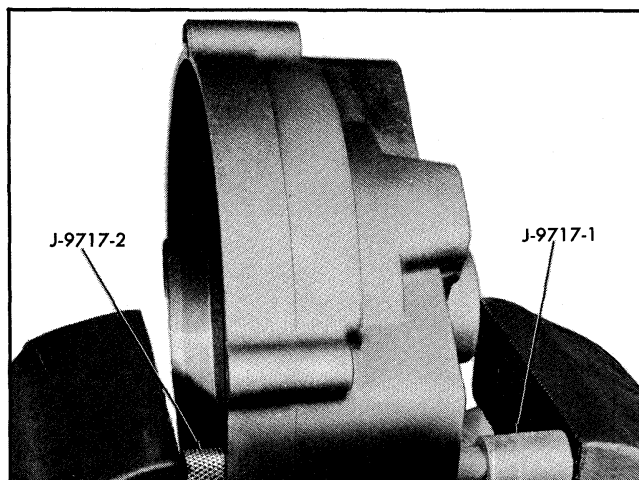

Fig. 11-23 Removing Diode
1. With stator removed, support slip ring end frame in vise or arbor press with J-0717-2 against casting and position remover J-9717-1 against diode as shown in Fig. 11-23.